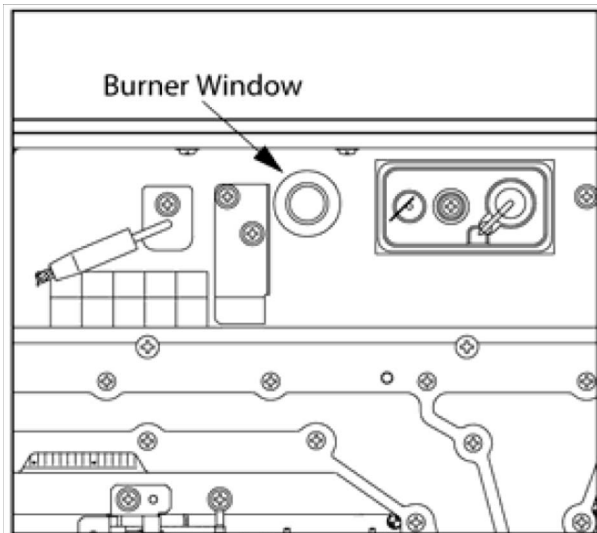

Fig. 7
- ▶ 13. After the manifold pressures have been confirmed, verify that the flame is a steady blue color using the inspection window (Fig. 7).